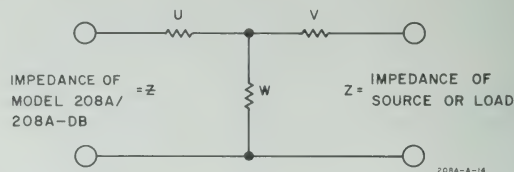

Figure 3-2. Network Data
c. Networks may be used which provide the Model 208A/208A-DB and its load with an impedance match. Network data and connections are given in Figure 3-2 and Table 3-1.